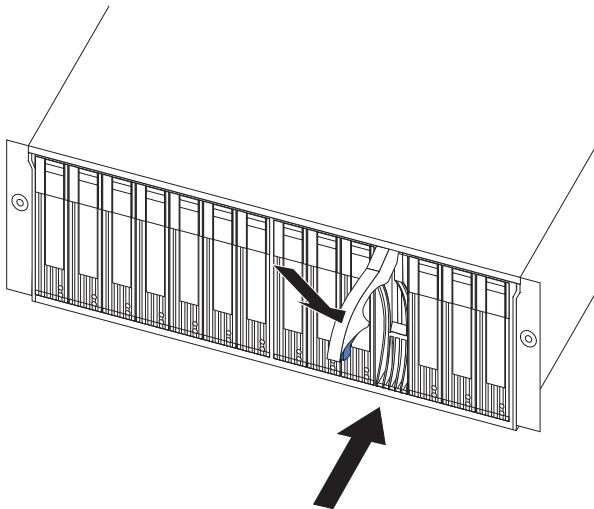

Figure 14. Replacing hot-swap hard disk drives
2. Push the tray handle down into the closed (latched) position as shown in Figure 14.